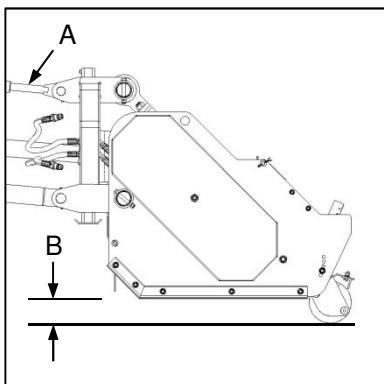

Fig. 1
- ✓ After attaching the implement to the tractor hitch, lower the implement such that the rear roller is in contact with the ground. Adjust the tractor 3-point hitch top link (Fig. 1-A) to level the implement in relation to ground level (Fig. 1-B).
- ✓ Laat sak die implement nadat dit aan die trekker gehaak is totdat die agterste roller aan die grond raak. Verstel die 3-punt-haak se boonste koppelstuk (Fig. 1-A) om die implement gelyk met die grond te kry (Fig. 1-B).